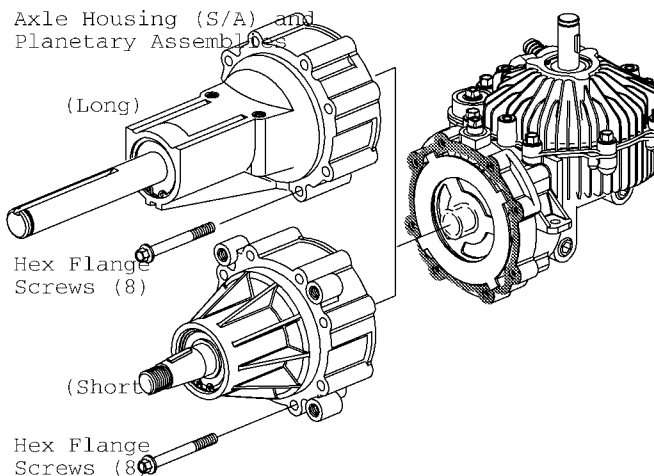

Figure 26
Refer to Figures 26 - 30 for axle housing disassembly and assembly.
3. To disassemble the axle housing assembly, carefully position the axle housing assembly on a clean flat surface, then separate axle housing from the planetary assemblies (Figure 26).